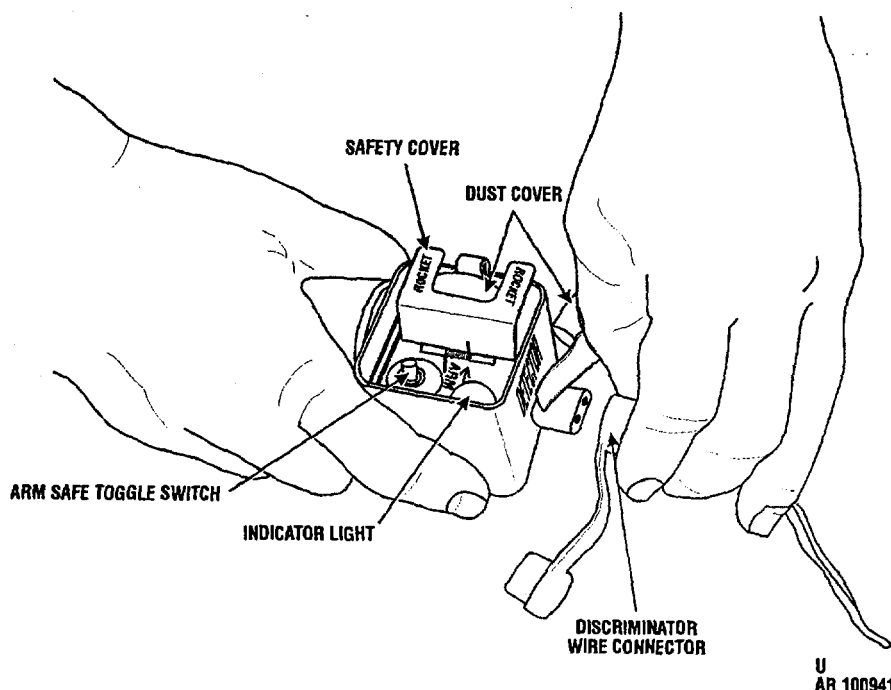

Figure 2-63. Connecting discriminator to firing device.
- (1) Lay out attached discriminator wire loosely at side of road near discriminator to obtain connector for attachment to firing device.
- (2) Assure ARM-SAFE toggle switch is in safe position. Remove dust cover from firing device connector labeled DETECTOR and connect to discriminator wire (fig. 2-63).
- (25) Recheck camouflaged discriminator, disguising any exposed section.
- (26) Remove dust cap from rocket cable assembly connector; lift up safety cover and remove dust cap on firing device connector labeled ROCKET; and join connectors (fig. 2-63).